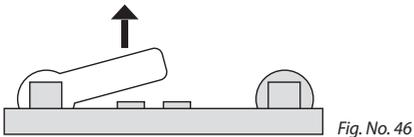

Fig. No. 46
2. Once the enclosure is opened, remove the plastic tab inserted between one of the battery terminals and battery slot contact (see Fig. No. 46).